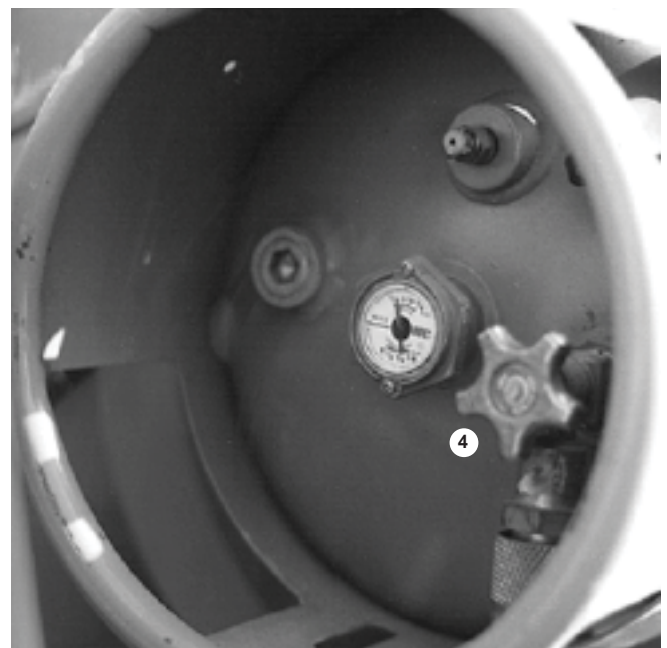

Figure 11.18
- For LP operation: completely open the valve (4) (see figure 11.18) on top of the LP tank (unscrew counterclockwise until it stops).